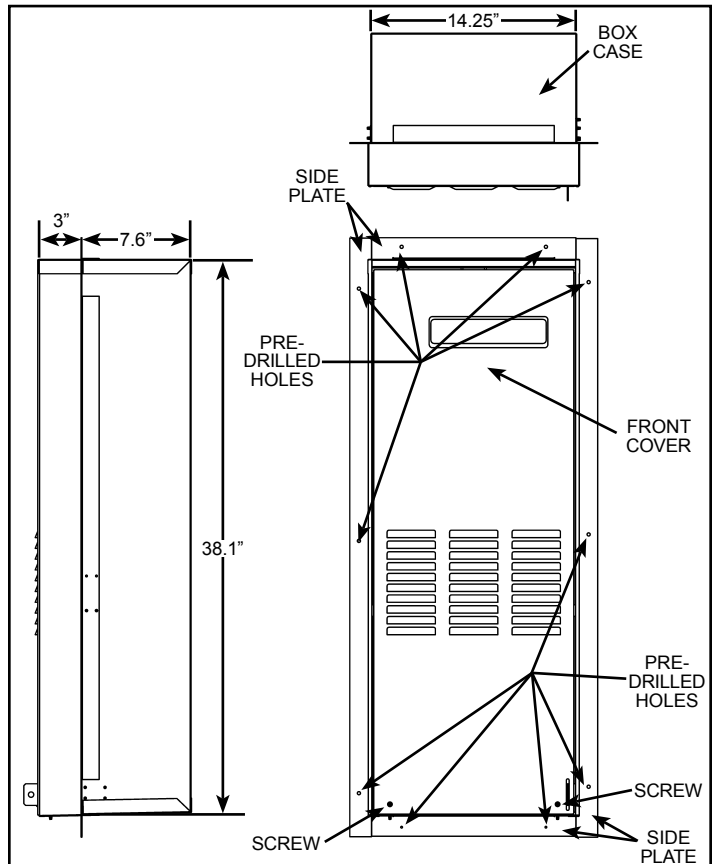

Figure 3.
1. Remove and retain the screws (Item #7) securing the front cover (Item #2) to the recess box (Item #1) (see Figure 3).
4. This recess box is designed for new construction installations. Secure the recess box to framing capable of supporting the weight of the recess box and installed water heater using appropriate mounting screws (not supplied) and the pre-drilled holes in the side plates (see Figure 3).